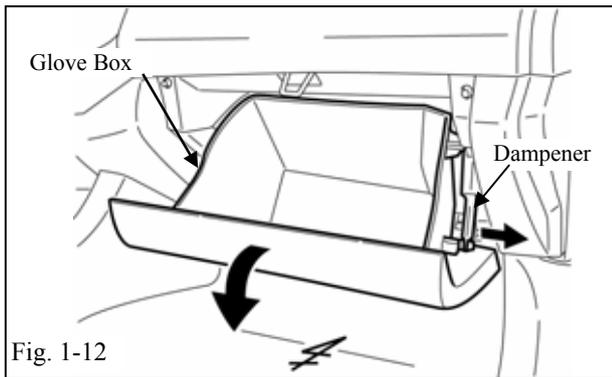

Fig. 1-12
- (t) Remove the glove box. (Fig. 1-12)
- (1) Remove the dampener from the glove box.